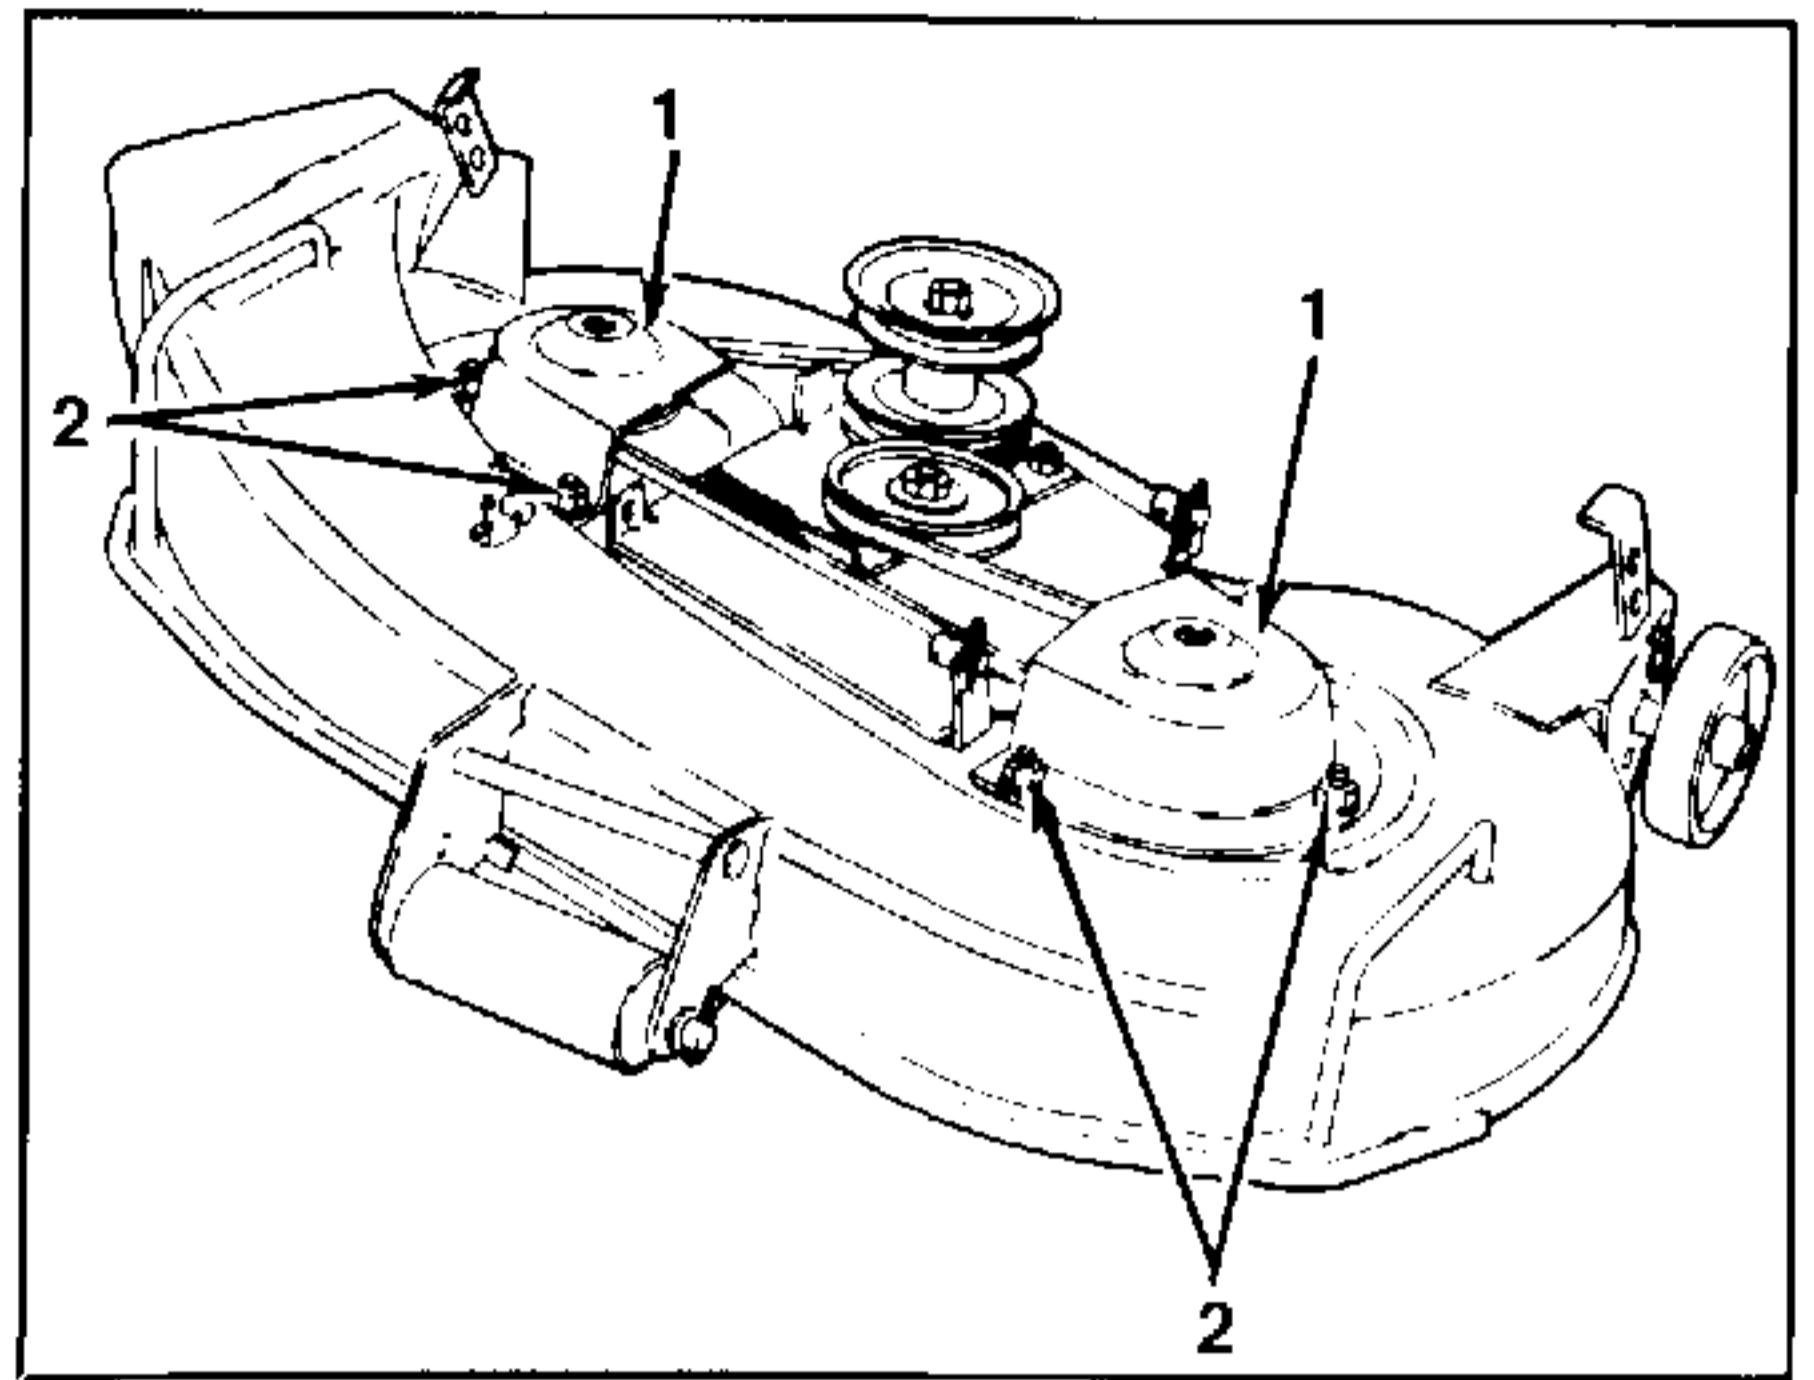

FIGURE 19.
In order to replace the spindle drive belt, refer to figure 19, 20 and 21 and proceed as follows:
5. Install a new belt. Refer to figures 19, 20 and 21 for proper placement of belt. Push against idler pulley to aid the installation.